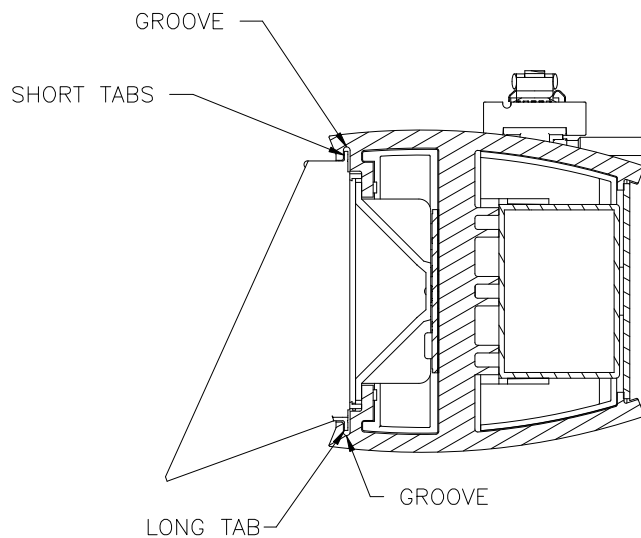

FIG. 2
3. Press SUPPORT BEAM enough to engage SHORT TABS into GROOVE. (FIG 2)
4. Ensure both LONG AND SHORT TABS are engaged in GROOVES in Luminaire. (FIG 2)